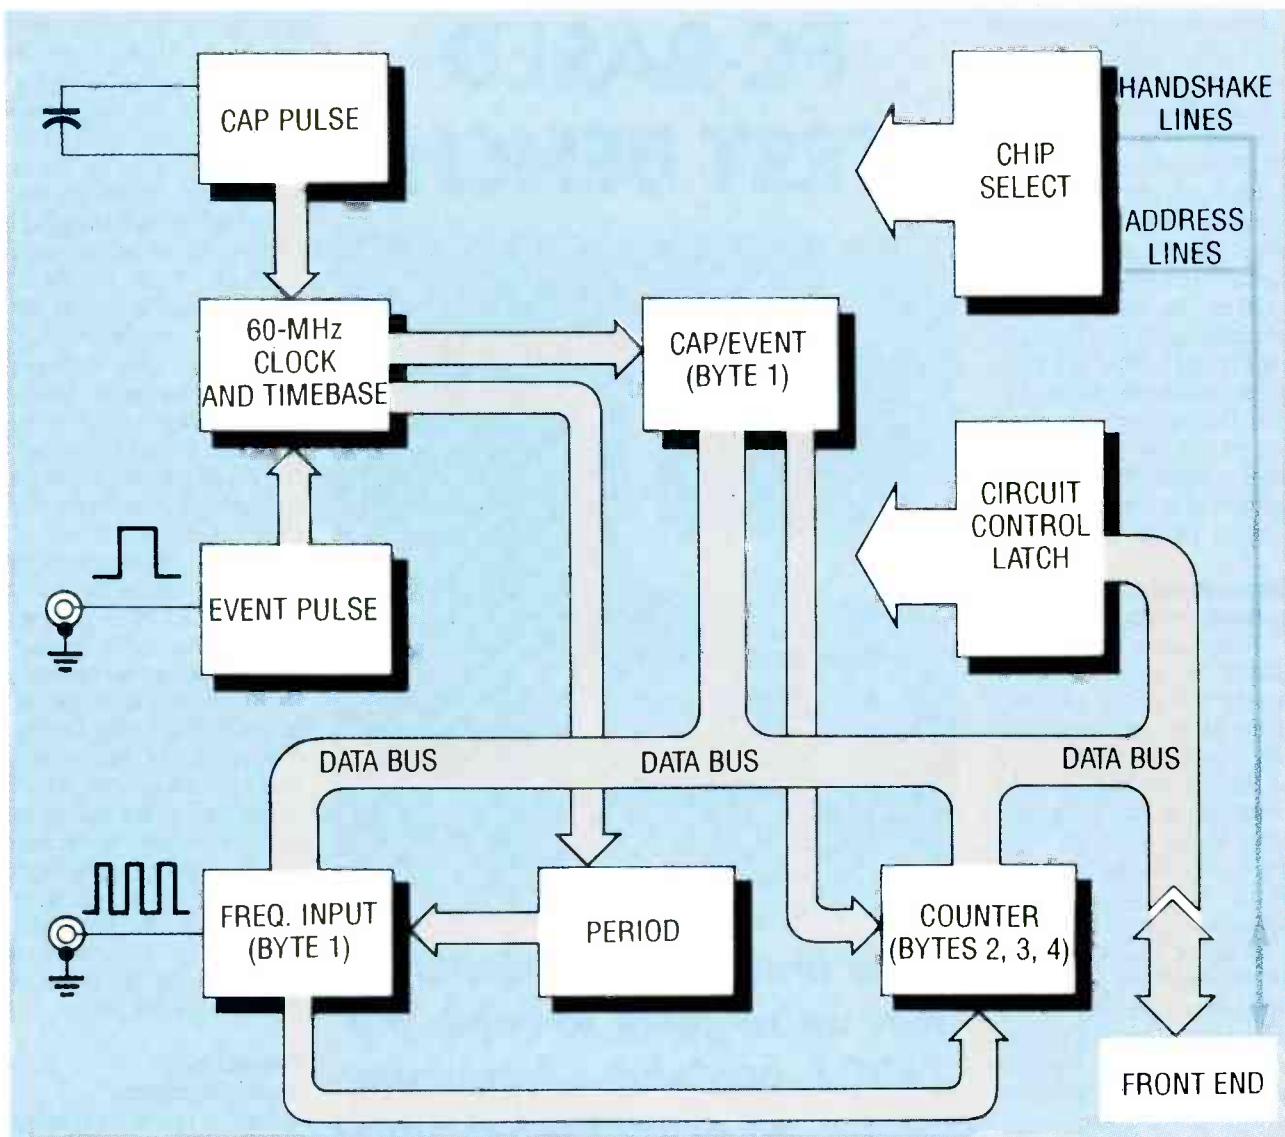

FIG. 1—T1001 BLOCK DIAGRAM. This peripheral contains a 100-MHz digital frequency counter, an event/period meter, and a precision capacitance meter.
1. **High-frequency (HF) allocations.** Figure 1 shows the additional frequency allocations made for high-frequency broadcasting. Four conditions were imposed on those allocations:
2. **Satellite sound broadcasting (BSS).** The issues here produced a genuine tug-of-war. The conference was divided from the outset on allocation of frequencies. Most Europeans wanted the more economical and propagationally suitable L-Band, with an allocation around 1.5 GHz. However, the U.S. was firmly opposed to that allocation because military aeronautical services are now operating in that band. The U.S. wanted the allocation in the S-band, around 2.3 GHz. Other countries, notably China, Russia, Japan, India, and Pakistan, wanted the BSS allocation to be around 2.5 GHz. (See Fig. 1)
3. High-definition television (HDTV). This service ran into problems similar to those encountered in BSS, and there was no agreement on worldwide allocations. Instead, Europe, Africa, and Asia will use the 21.4- to 22-GHz band, and the Americas will use the 17.3- to 17.8-GHz band. Feeder links will be in the 18.1- to 18.4-GHz band in the Americas, and 24.25- to 25.25-GHz band elsewhere. (See Fig. 1) These bands will become available on April 1, 2007.
The Circuit Control Latch section (CCL) is made up of 16 control lines that are individually routed to every block depicted in Fig. 1. The purpose of the CCL section is to enable, disable, reset, start, and stop the major processes of the T1001. The Capacitor Pulse section, when started by the CCL section, produces a negative-going pulse whose period is proportional to the capacitor under test.